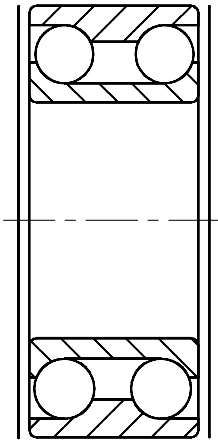

Figure 18-8 The modified xref drawing BEARING
- Open the drawing **BEARING** and make the changes shown in Figure 18-8 (draw polylines on the sides). Now, save the drawing with the file name **BEARING**.